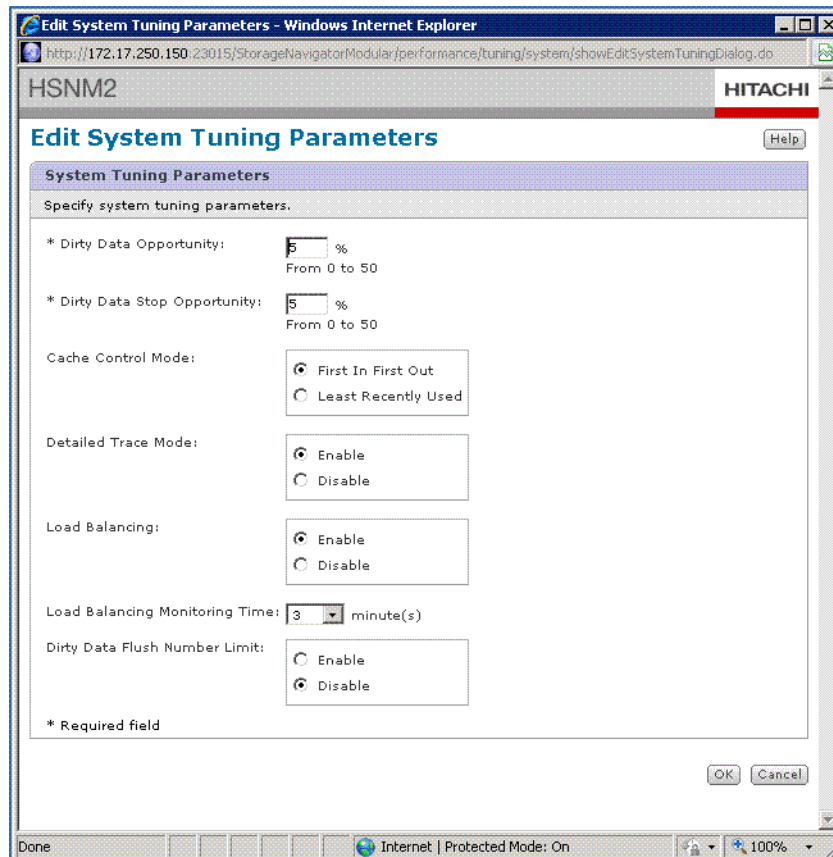

Figure 9-16: Edit System Tuning Parameters dialog box
- In the System Tuning list, click on the **Edit System Tuning Parameters** button to display the Edit System Tuning Parameters dialog box as shown in Figure 9-16.